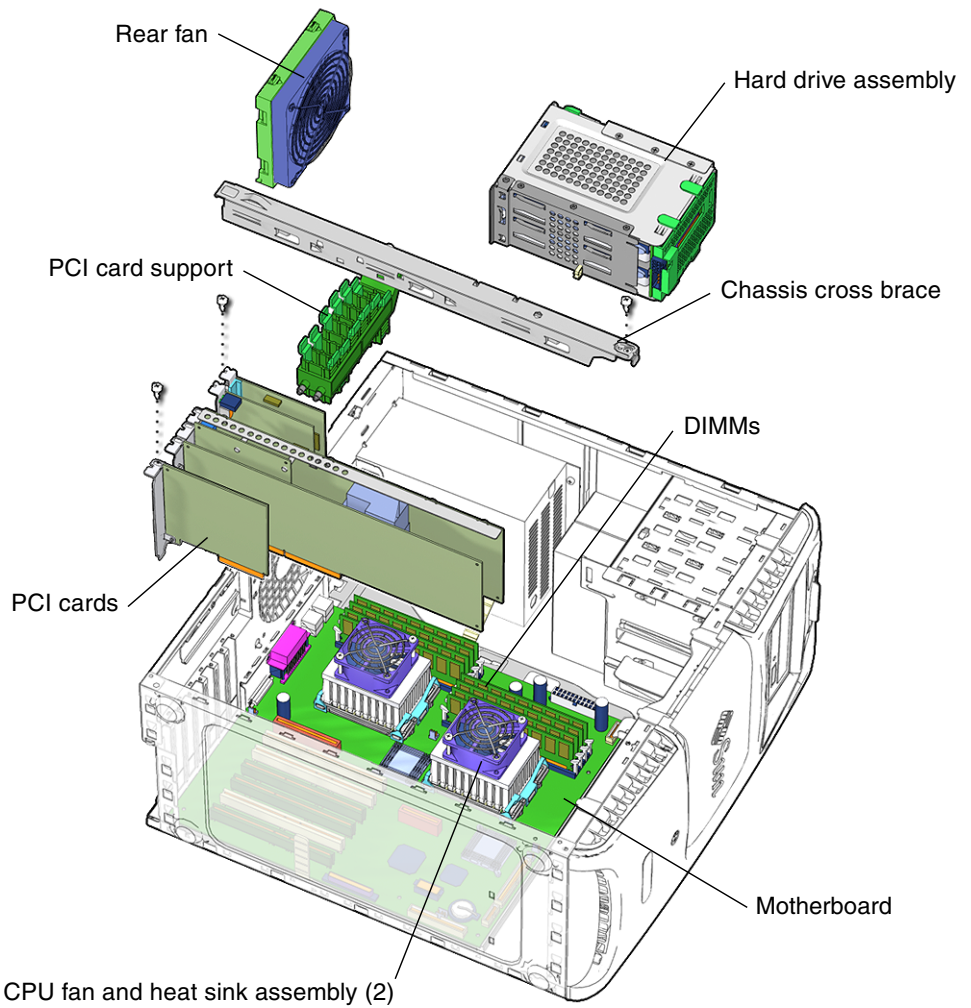

FIGURE 11-35 Removing Chassis Components
2. Locate the motherboard (FIGURE 11-35).